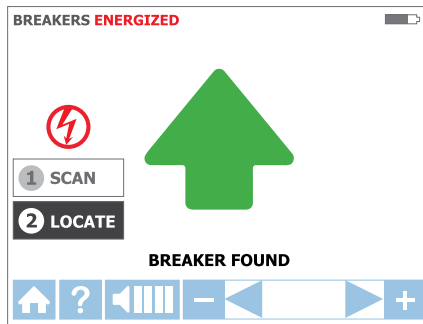

Figure 3.3f: LOCATE mode – breaker/fuse identified
3. Rescan all breakers/fuses until solid green arrow and audible alert (continuous beep) indicates that the correct breaker/fuse was found (Figure 3.3f).